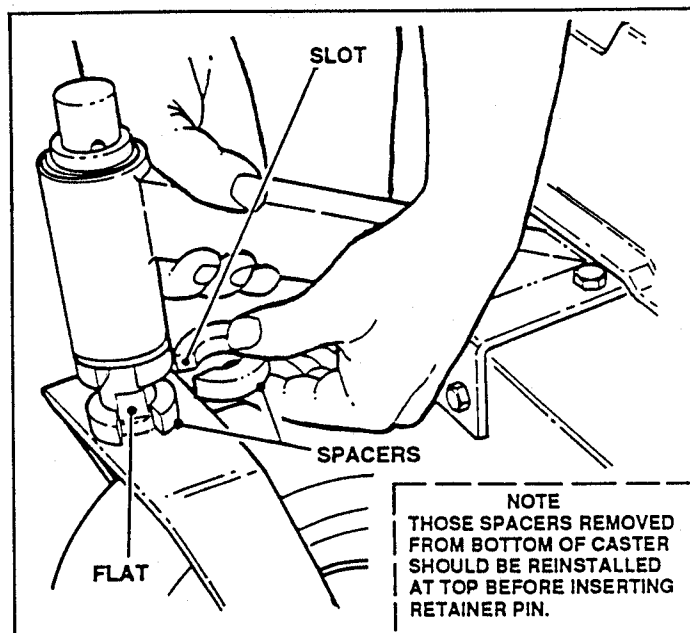

FIGURE 21
- Lift Caster Support while adding or removing bottom spacer. See Figure 21.